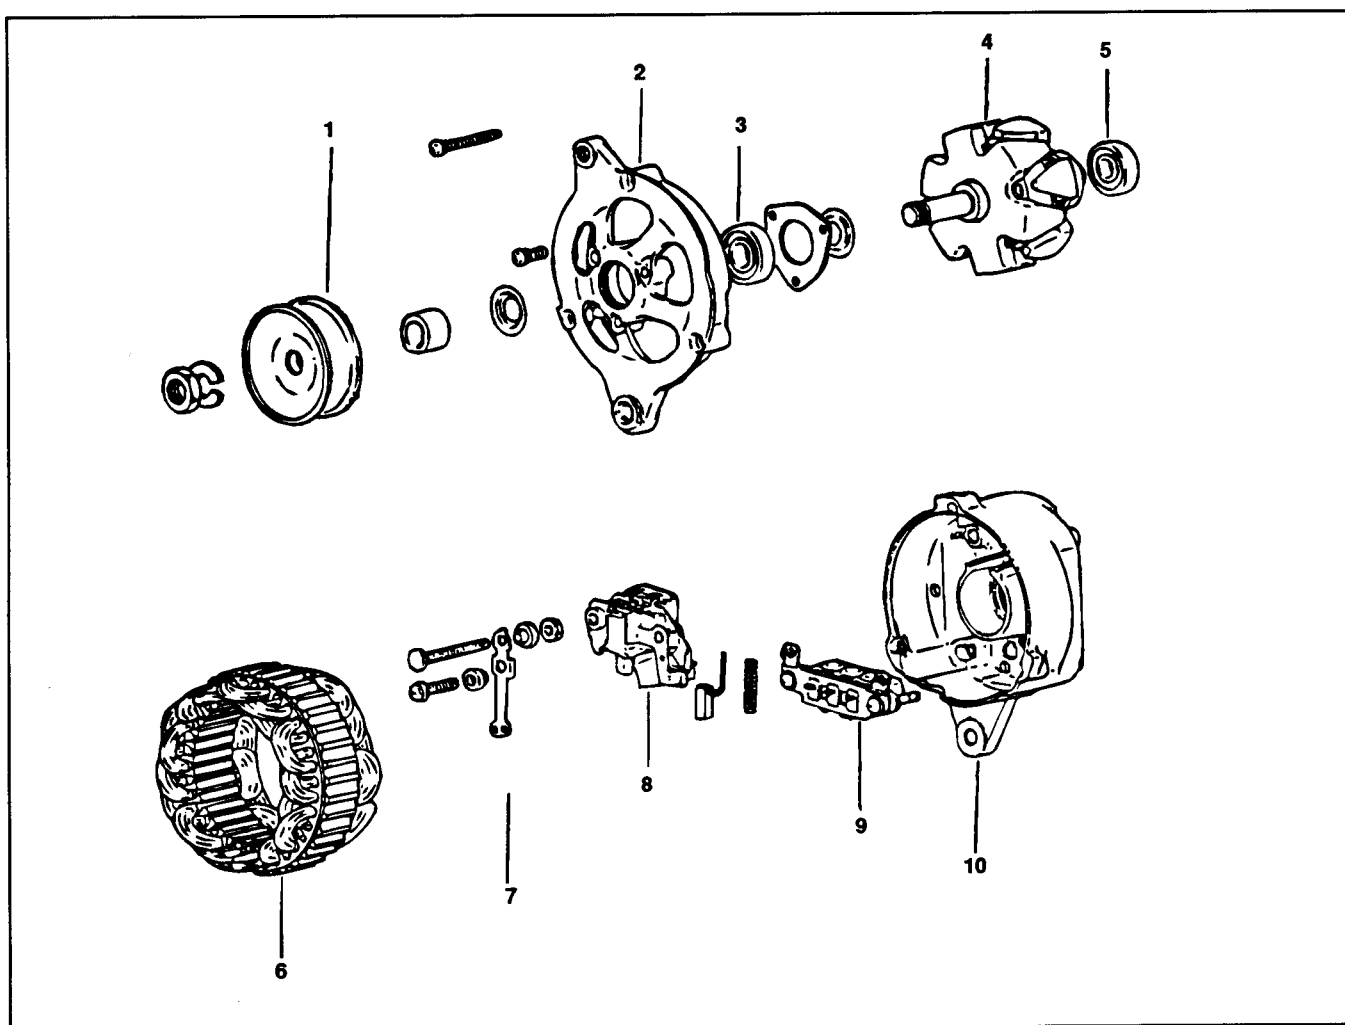

Figure 51
2. Remove the three through bolts (Fig. 51).